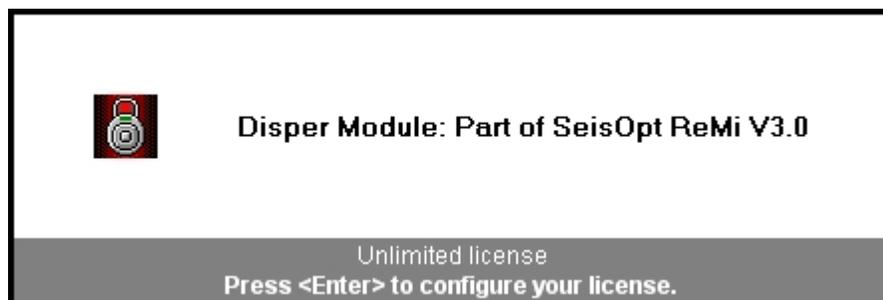

Figure 6: License check window appears each time ReMi Vspect or ReMi Disper module is run
7. Each time you run ReMi Disper, a small window briefly appears (Figure 6) describing the status of the license, then closes, and the program starts. DO NOT hit ENTER/RETURN when this window appears.